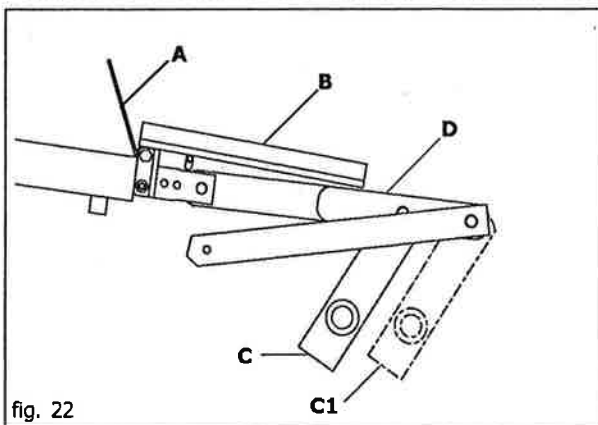

fig. 22
2) Put the lever (C Fig. 22) in position C1.